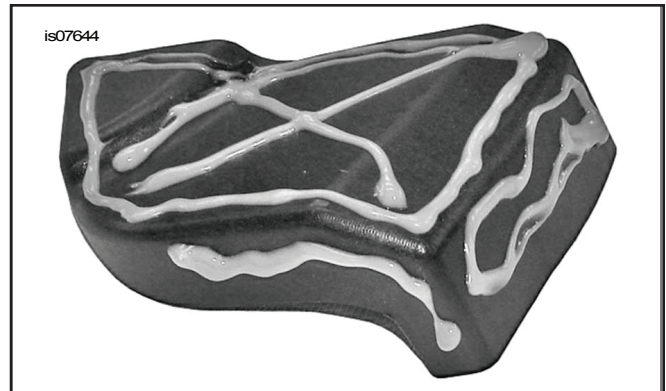

Figure 2.
3. See Figure 2. Place oil deflector (cover side up) on a clean protected surface.